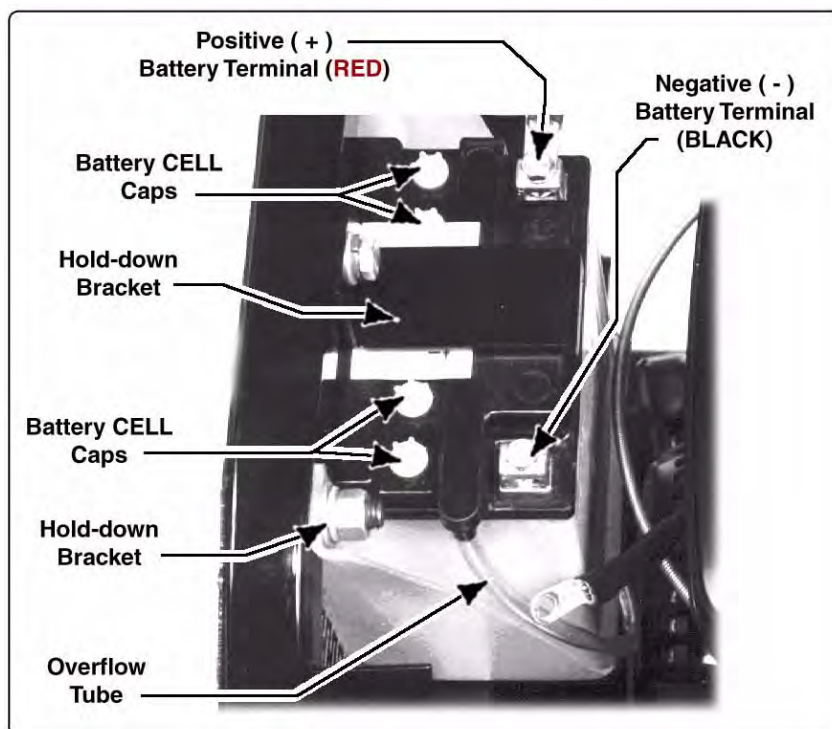

Figure 3-1: Battery Layout
2. Disassemble the battery brackets and remove the battery from its holder tray. (See Figure 3-1: “Battery Layout.”)
3. Remove the battery cell caps. Fill each cell to the level indicator using dilute battery grade sulfuric acid. The electrolyte level may drop slightly because of absorption into the plates and separators. If it does, add more electrolyte to restore the level. (See Figure 3-1: "Battery Layout," on page 33.)
7. Make sure the battery overflow tube is connected and directed down to the lowest point of the pump. (See Figure 3-1: "Battery Layout," on page 33.)